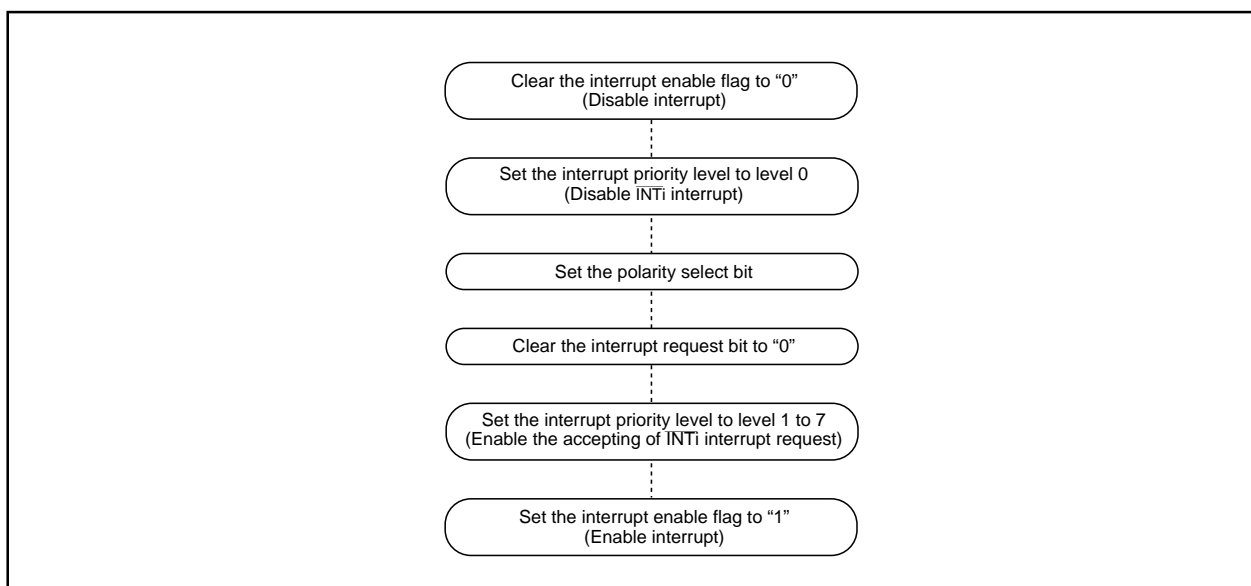

Figure 1.10.13. Switching condition of INT interrupt request
(3) The $\overline{\text{NMI}}$ interrupt
(4) External interrupt
- When the polarity of the $\overline{\text{INT0}}$ to $\overline{\text{INT2}}$ pins is changed, the interrupt request bit is sometimes set to "1". After changing the polarity, set the interrupt request bit to "0". Figure 1.10.13 shows the procedure for changing the $\overline{\text{INT}}$ interrupt generate factor.